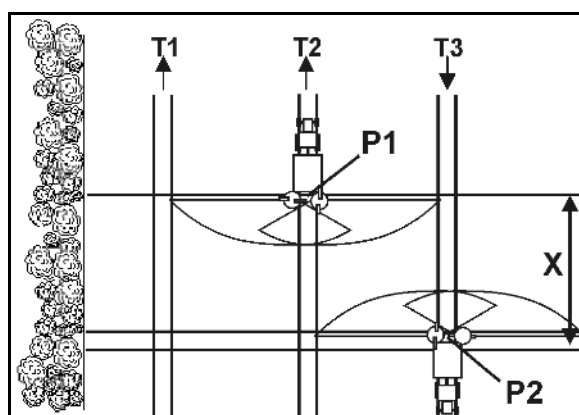

Fig. 54
1. Remove the M10 hexagonal bolt (Fig. 54/1).